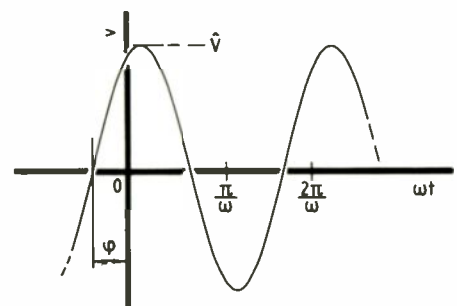

Fig 1. A typical ‘sine’ wave starting at an arbitrary point, or *phase* relative to 0 as shown, has a true sine and cosine component.
Once again my discussion group buzzed a little and conjectured about the cryptic beginnings that seemed to grow more and more common in our revisionary topic sessions. By this time I had drawn Fig. 1 on the board. “You might remember that the elementary trigonometric functions have three constants or parameters in their expressions which set the vertical height, the rapidity of oscillation and the position along the axis.” Then I asked if Fig. 1 was a sine wave or a cosine wave. The replies varied: some people thought it was a sine wave; others said, “Cosine, because the peak starts nearer the origin.” One bright student suggested that, because neither the peak (which would be a plot of cosine) nor the rising zero crossing (which would characterize sine) was at the origin, the plot was neither a sine nor a cosine wave. “On the other hand”, he said as an afterthought, “it might be a mixture of both.”
Later, I appreciated this last suggestion, because it is nearest to our purpose here. Figure 1 does show a combination of a sine and a cosine wave. If you consider,
where  $\hat{V}_1$  and  $\hat{V}_2$  are new amplitudes, both smaller than  $\hat{V}$ , the original. So the single wave in Fig. 1 obviously contains a sine wave and a cosine wave, called its sin and cos components.
(b) shows the results of equation (4) and gives us explicitly the sine and cosine components mentioned in the caption to Fig. 1.